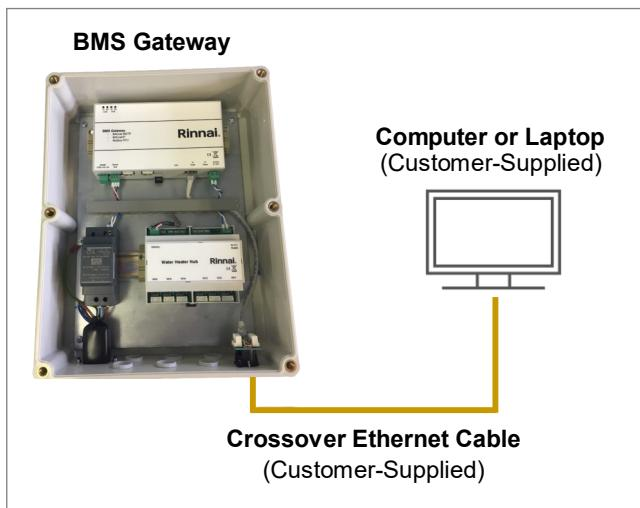

Fig 88. Connect to BMS Gateway Using a Crossover Ethernet Cable
1. Connect one end of the crossover Ethernet cable to the BMS Gateway ethernet port, and the other end to the computer ethernet port (Fig 88).